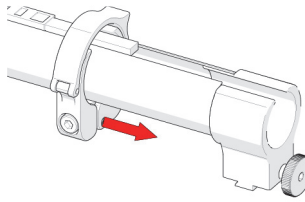

Figure 2-49 Slide clamp onto mount
3. Slide the clamp over the tube and cable management dovetail mount, pinching the tube in between (see Figure 2-49 on page 70).